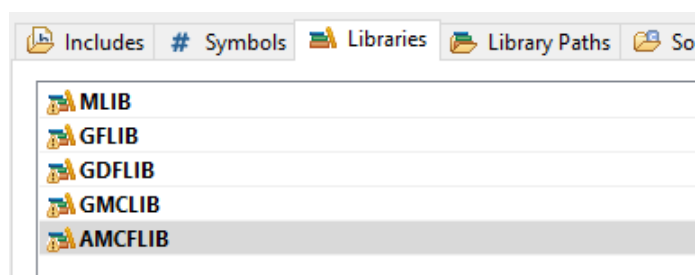

Figure 1-9. Libraries
15. After adding the library paths, add the library files. Click the Libraries tab. See Figure 1-9.
26. Click OK, and you will see the libraries added in the list. See Figure 1-9.